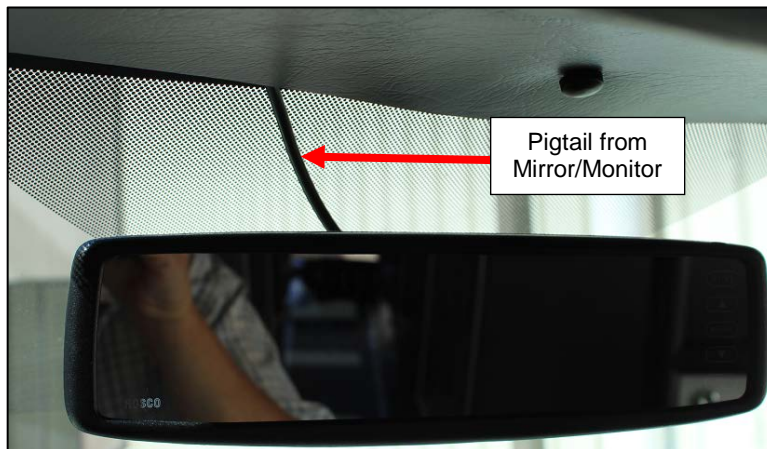

Figure 2: Mirror/Monitor Mounted
4. Install the mirror/monitor and mount on the windshield using the existing mounting block. Tighten with the Allen wrench. See **Figure 2**.
5. Connect the orange-taped end of Section A of the harness to the pigtail from the mirror/monitor. See **Figures 2 and 3**.